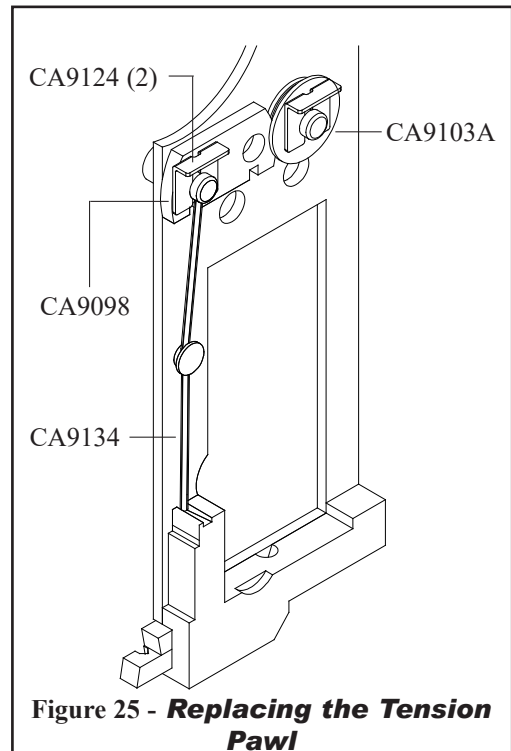

Figure 25 - **Replacing the Tension Pawl**
**Removing and Replacing the Tension Pawl (Figure 25)**